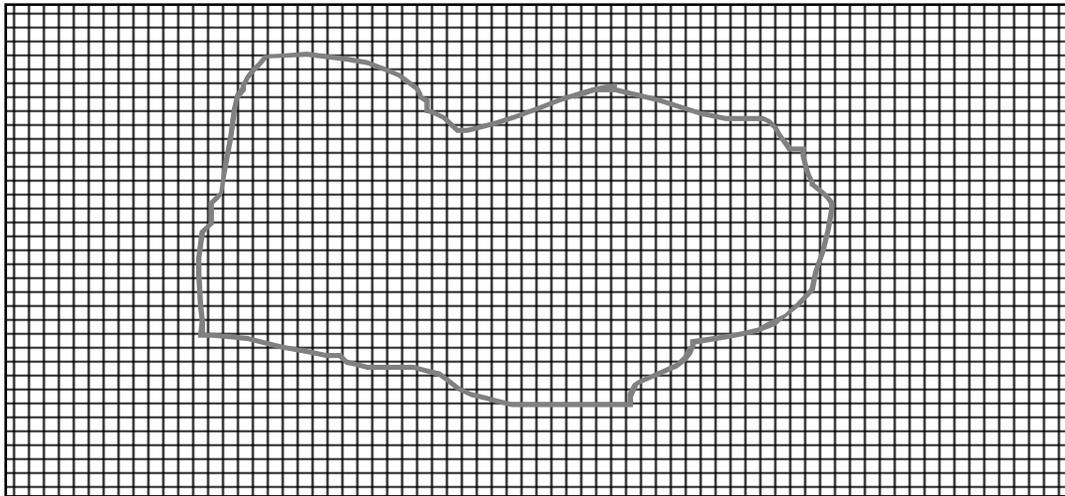

Figure 4-3.
- The Place the graph paper template over the chamois specimen must be on a smooth surface. Prior to using any graph paper use a ruler to verify the dimensions of squares at several random points across the page. Determine the area by counting the number of squares that cover the surface of the chamois. Estimate parts of the template that do not completely cover the chamois by adding the number of partially covered blocks. (See Figure 4-3. "Template for Checking the Area of a Chamois") Compute the total area and refer to Section 4.8.3. to determine if further action is necessary. Place the chamois on the graph paper. Carefully draw around the outline of the skin on the paper.
- Determine the area by counting the number of squares the chamois covers. Use a ruler to help calculate the area. Add the number of partially covered squares. (See Figure 4-3. "Template for Checking the Area of a Chamois.")